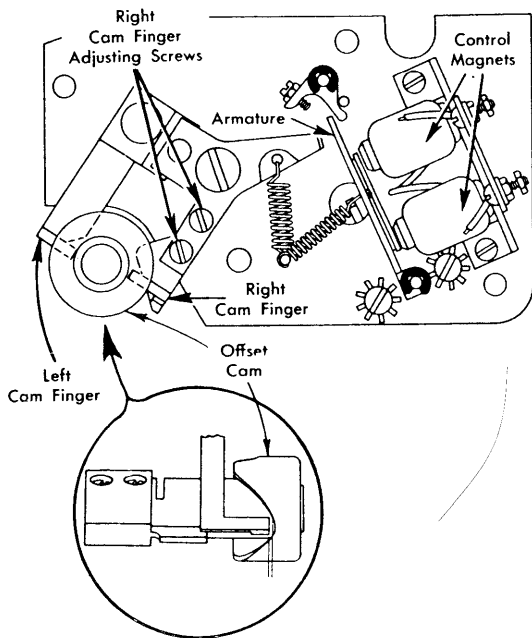

Figure 54. Cam Finger Adjustment
**CAM FINGER (FIGURES 54 AND 55)**